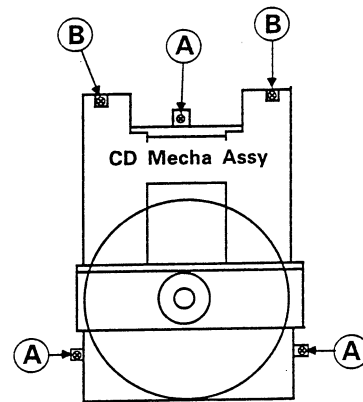

Fig. 2-3
- 3) Remove the three screws that fix the mechanism Ass'y. (See Fig.2-3.)